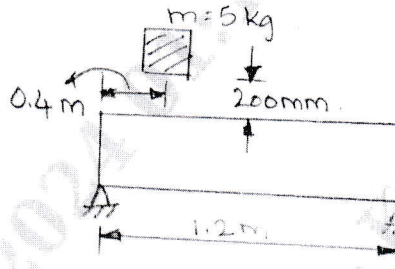

Fig. Q3 (b)
- b. A 5 kg block is dropped from a height of 200 mm onto a beam shown in Fig. Q3 (b). The material has an allowable yield stress of 50 MPa. Determine the dimensions of rectangle section whose depth is 1.5 times the width. Take  $E = 70 \text{ GPa}$ .